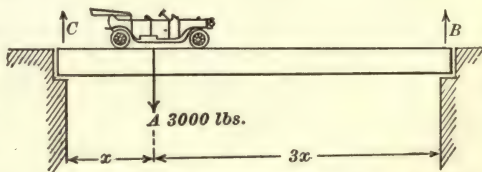

FIG. 28. — Bridge with automobile on it.
30. Parallel forces. Suppose we have a 3000-pound automobile standing on a bridge in a position one fourth of the length of the bridge from one end (Fig. 28), and we wish to know how much of the weight is borne by the supports at each end of the bridge.
Let us apply these principles of parallel forces to the problem of the automobile standing on the bridge. This can be represented by figure 28, where A is the weight of the